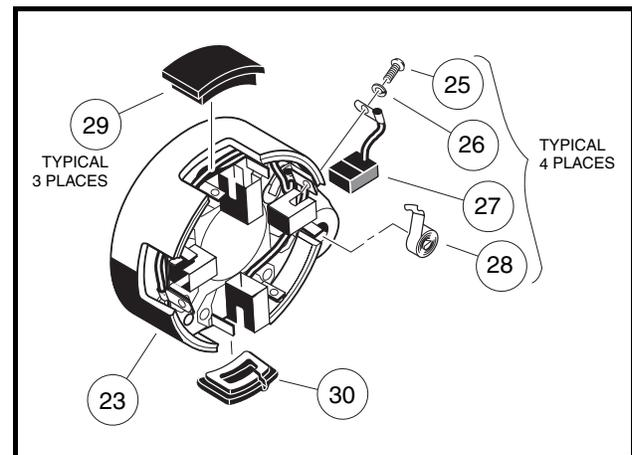

Figure 12-3 Brush Covers and Brushes
2. Remove brush covers (29 and 30), screws (25) and lock washers (26), brush springs (28), and brushes (27) (**Figure 12-3, Page 12-2**). See following NOTE.
2. Install the four brushes (27) into their holders and insert the four brush springs (28) (**Figure 12-3, Page 12-2**). Using a spring scale, test brush spring tension. If any spring has a tension less than 24 ounces (6.67 N), replace all four springs (**Figure 12-5, Page 12-3**). **See following CAUTION.**
1. Connect the brush wires to the holders using four lock washers (26) and four screws (25), making sure the crossover leads are connected also. Tighten the screws to 31 in-lb (3.5 N-m) **(Figure 12-3, Page 12-2)**.
4. Push the brushes down into the holders. Position springs into the notches in the brushes. Install the brush cover (30) that has the drain hole in it next to the A2 terminal. Install the remaining three brush covers (29) in the openings in the commutator end cover (23) **(Figure 12-3, Page 12-2)**.
10. Push the brushes down into the holders. Place springs into the notches in the brushes. Install the brush cover (30) that has the drain hole in it next to the A2 terminal. Install the remaining three brush covers (29) in the openings in the commutator end cover (23) (**Figure 12-3, Page 12-2**).